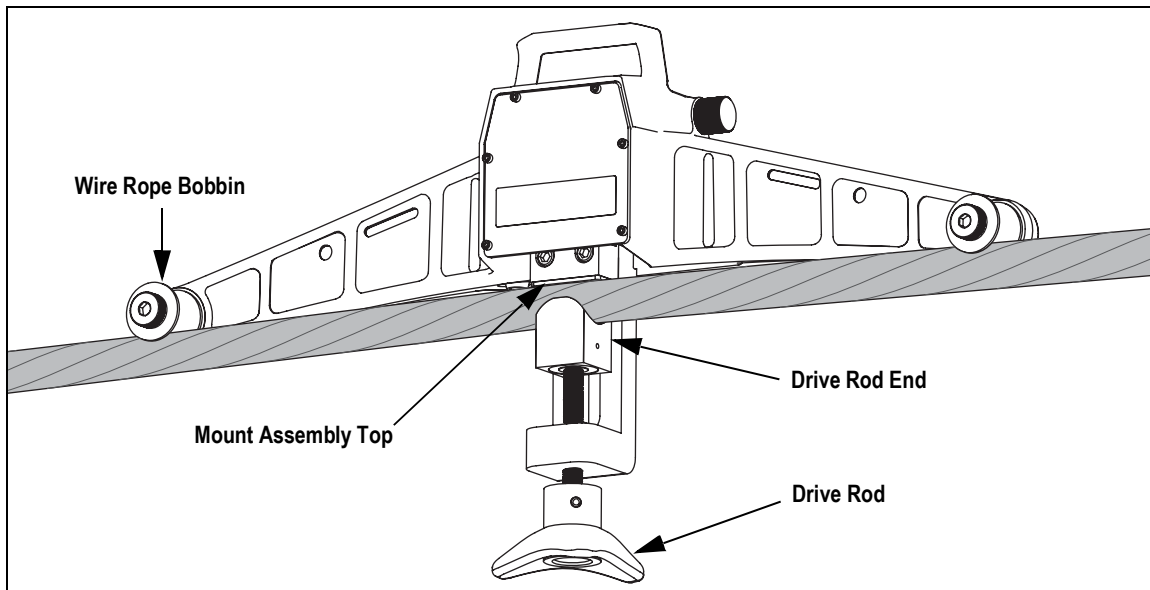

Figure 2-2. Dyna-Clamp On Wire Rope
3. Position the Dyna-Clamp on the wire rope (Figure 2-2).